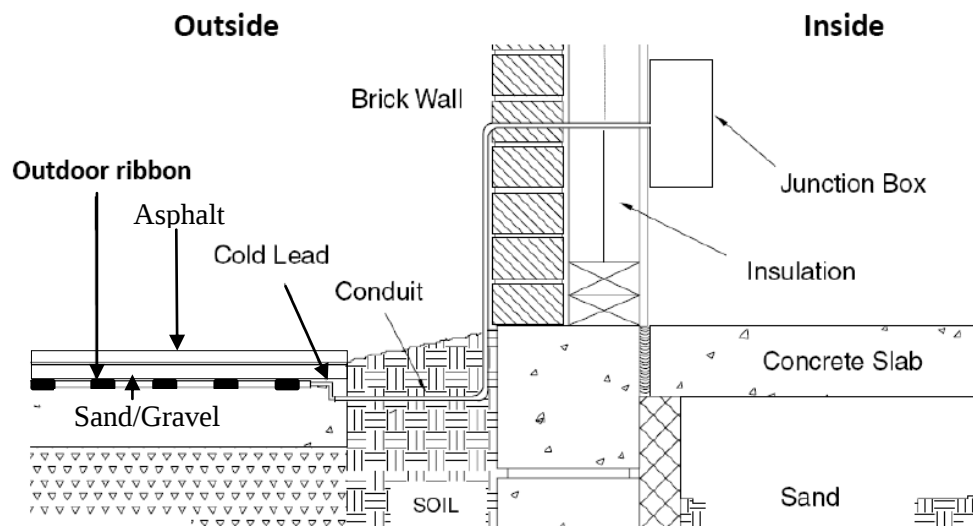

Fig.3.
- Prepare an adequate base. Refer to Fig.3.